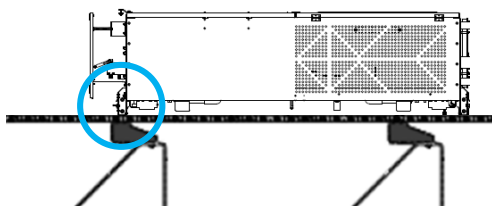

Fig. 6
4. Position the cabin inside the bottom tower section ensuring that bottom guiding rollers are aligned with a ladder anchorage support (see Fig. 6).